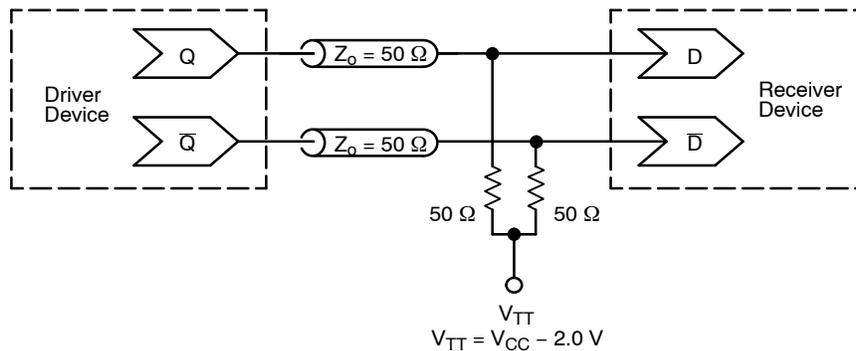

Figure 10. Typical Termination for Output Driver and Device Evaluation (See Application Note AND8020/D – Termination of ECL Logic Devices.)
- All loading with 50 Ω to $V_{CC} - 2.0\text{ V}$ (see Figure 10).
9. All loading with $50\ \Omega$ to $V_{CC} - 2.0\text{ V}$ (see Figure 10).
12. All loading with $50\ \Omega$ to $V_{CC} - 2.0\text{ V}$ (see Figure 10).
15. All loading with $50\ \Omega$ to $V_{CC} - 2.0\text{ V}$ (see Figure 10).
18. All loading with $50\ \Omega$ to $V_{CC} - 2.0\text{ V}$ (see Figure 10).
20. Measured using a 750 mV source, 50% duty cycle clock source. All loading with 50 Ω to $V_{CC} - 2.0\text{ V}$ (see Figure 10).